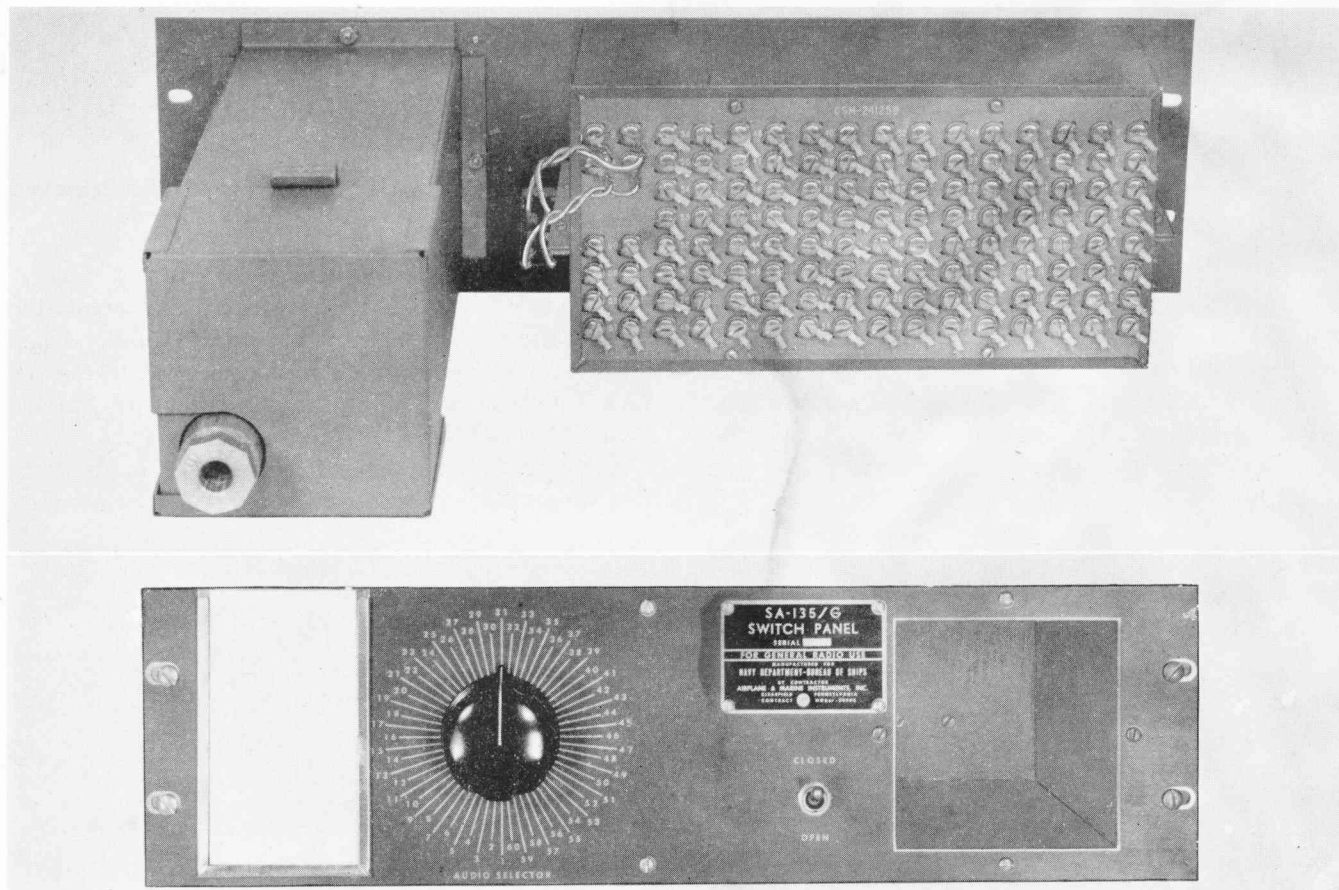

Figure 1-17. Switch Panel AN Type SA-135/G, Front and Rear Views
(13) SWITCH PANEL AN TYPE SA-135/G (*Figure 1-17*).—Switch Panel AN Type SA-135/G consists of a size C panel on which is mounted a 60 position rotary type audio channel selector switch, Navy Type CSM-241259, a toggle switch, and a key compartment.